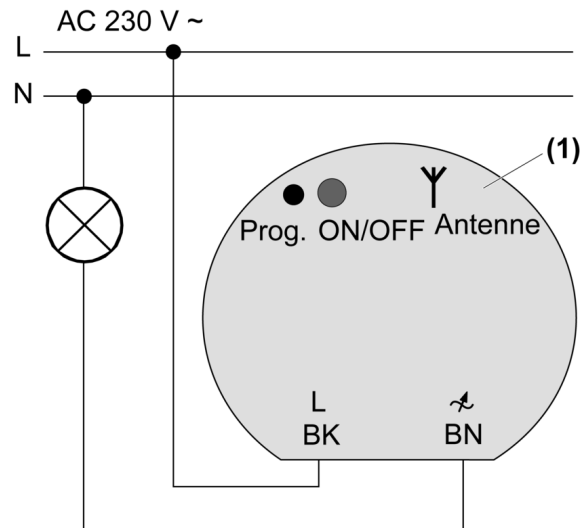

Figure 3
- Connect the dimmer (1) to lamp terminals according to connection diagram (Figure 3) (see Using the lamp terminals).